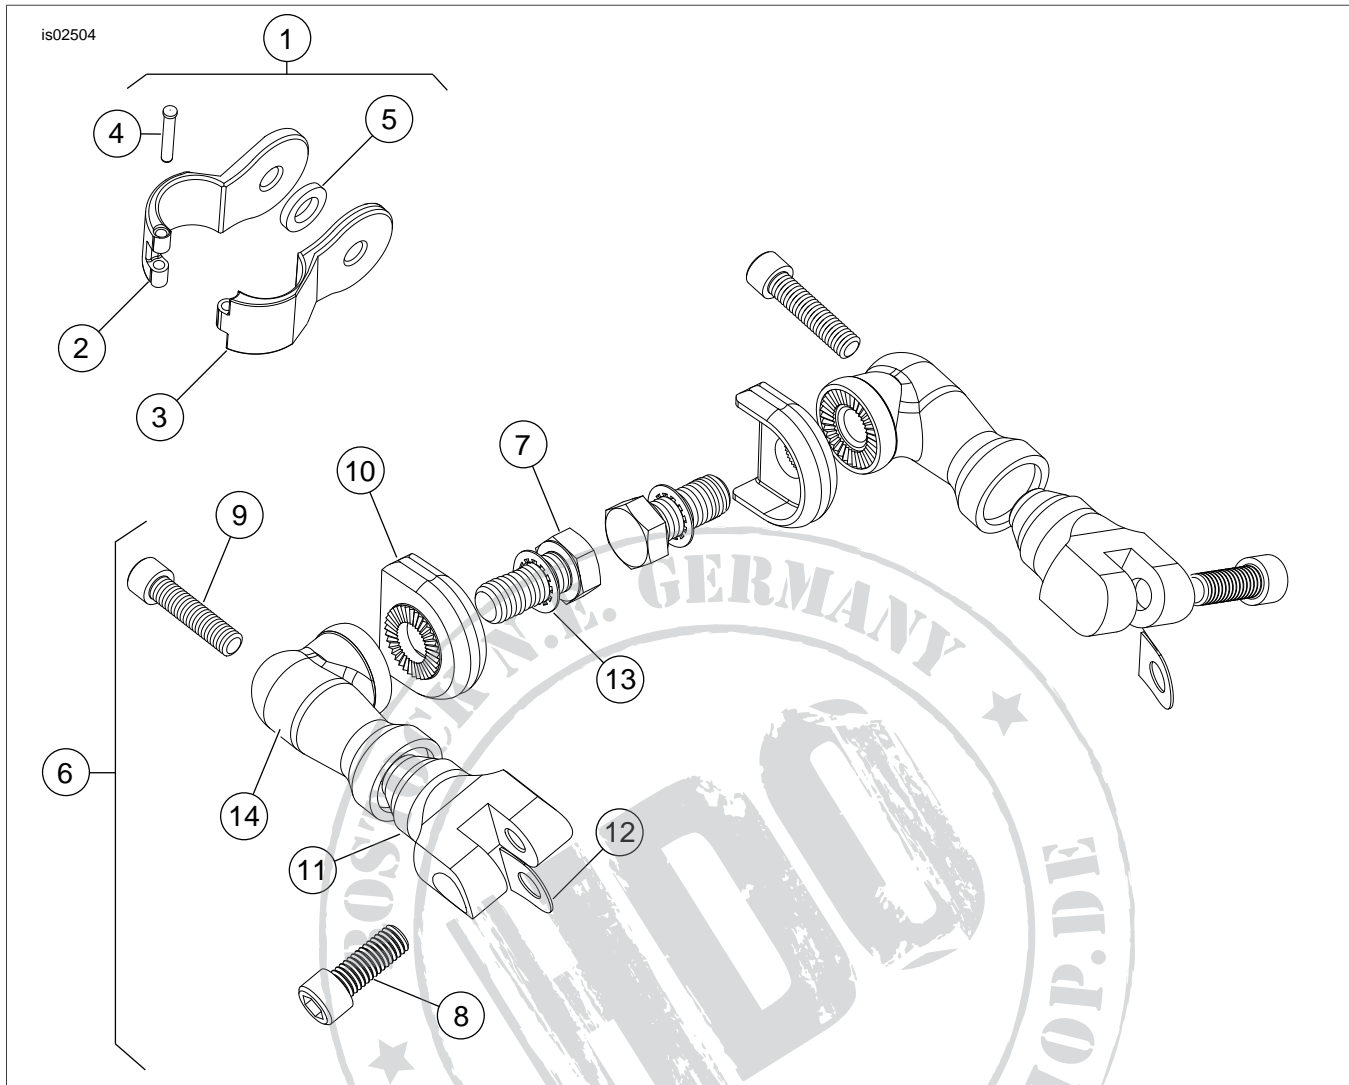

Figure 2. Service Parts: Offset Highway Footpeg Mounting Kits
See Figure 2 and Table 1.
3. See Figure 2. Obtain the clamp adapter (10) and install with "cogged" face of the adapter facing the footpeg extension (14).
4. Obtain the lockwasher (13), screw (7) and one of the offset extension arms (14) (long or short depending on kit number) from kit. Install the lockwasher, to screw. Install the screw (7) through clamp halves and washer (5) and thread into extension arm (14). Position arm as desired but do not tighten completely at this time.